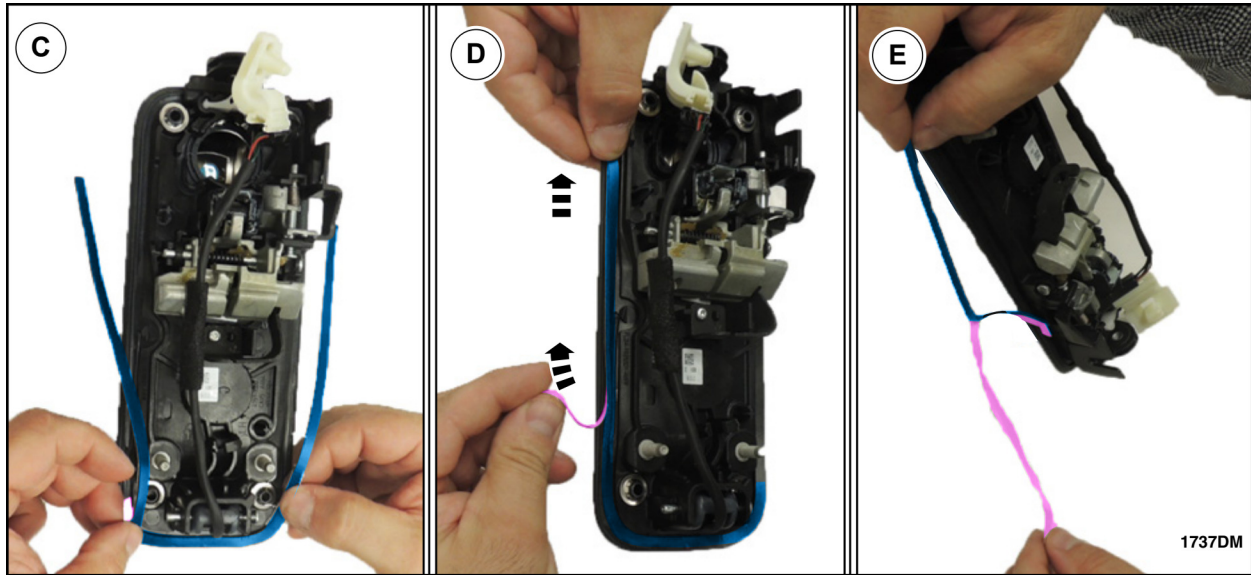

FIGURE 23
- C. Align the marks made on the foam E and exterior door handle and adhere the back center portion to the exterior door handle as shown in Figure 23.
- D. Lay one side of foam E down on the exterior door handle and without stretching the foam pull off the adhesive backing as you adhere foam E to the exterior door handle as shown in Figure 23.
- E. Remove the protective backing from the other side of foam E as shown in Figure 23.